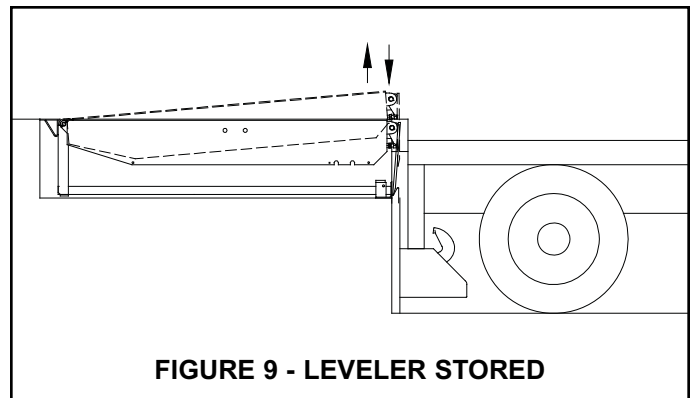

FIGURE 9 - LEVELER STORED
1. **Without Automatic Return to Dock (ARTD):** To store the leveler, push and hold the RAISE button until leveler is about 6 inches above dock level and lip is fully pendant, then release RAISE button. Leveler will lower to dock level with lip resting in the lip supports. See figure 9.